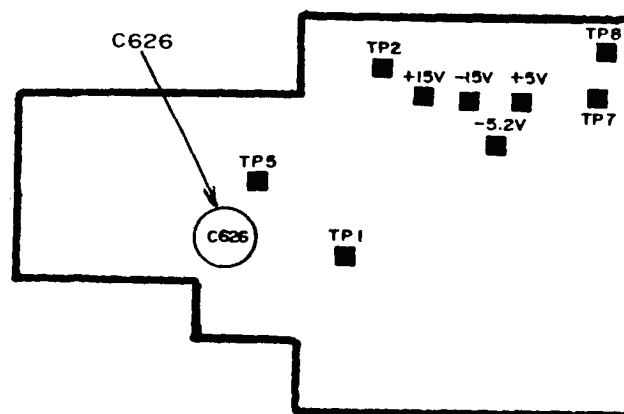

Figure 7. A4 power supply board - top left center.
- (1) Position controls as listed in (a) through (e) below:
- (2) Connect negative input of multimeter to TP7 (fig. 7) and positive input to TP1 (fig. 7). Multimeter will indicate approximately 155 V. Record multimeter indication.
- (3) Move positive lead to TP5 (fig. 7). Multimeter will indicate approximately 133 V dc. If the difference between indication recorded in (2) above and this indication is not between 21.780 and 22.220 V dc, perform **b** below.
- (4) Press **AMPLITUDE 30-100** pushbutton. Multimeter will indicate approximately 263 V dc at TP1 and approximately 241 V dc at TP5.
(5) Repeat technique of (2) above for settings and indications listed in table 9.
b. Adjustments. Adjust A4 R604 so that the voltage difference between TP1 and TP5 (fig. 7) is $22V \pm 220 \text{ mV (R)}$.